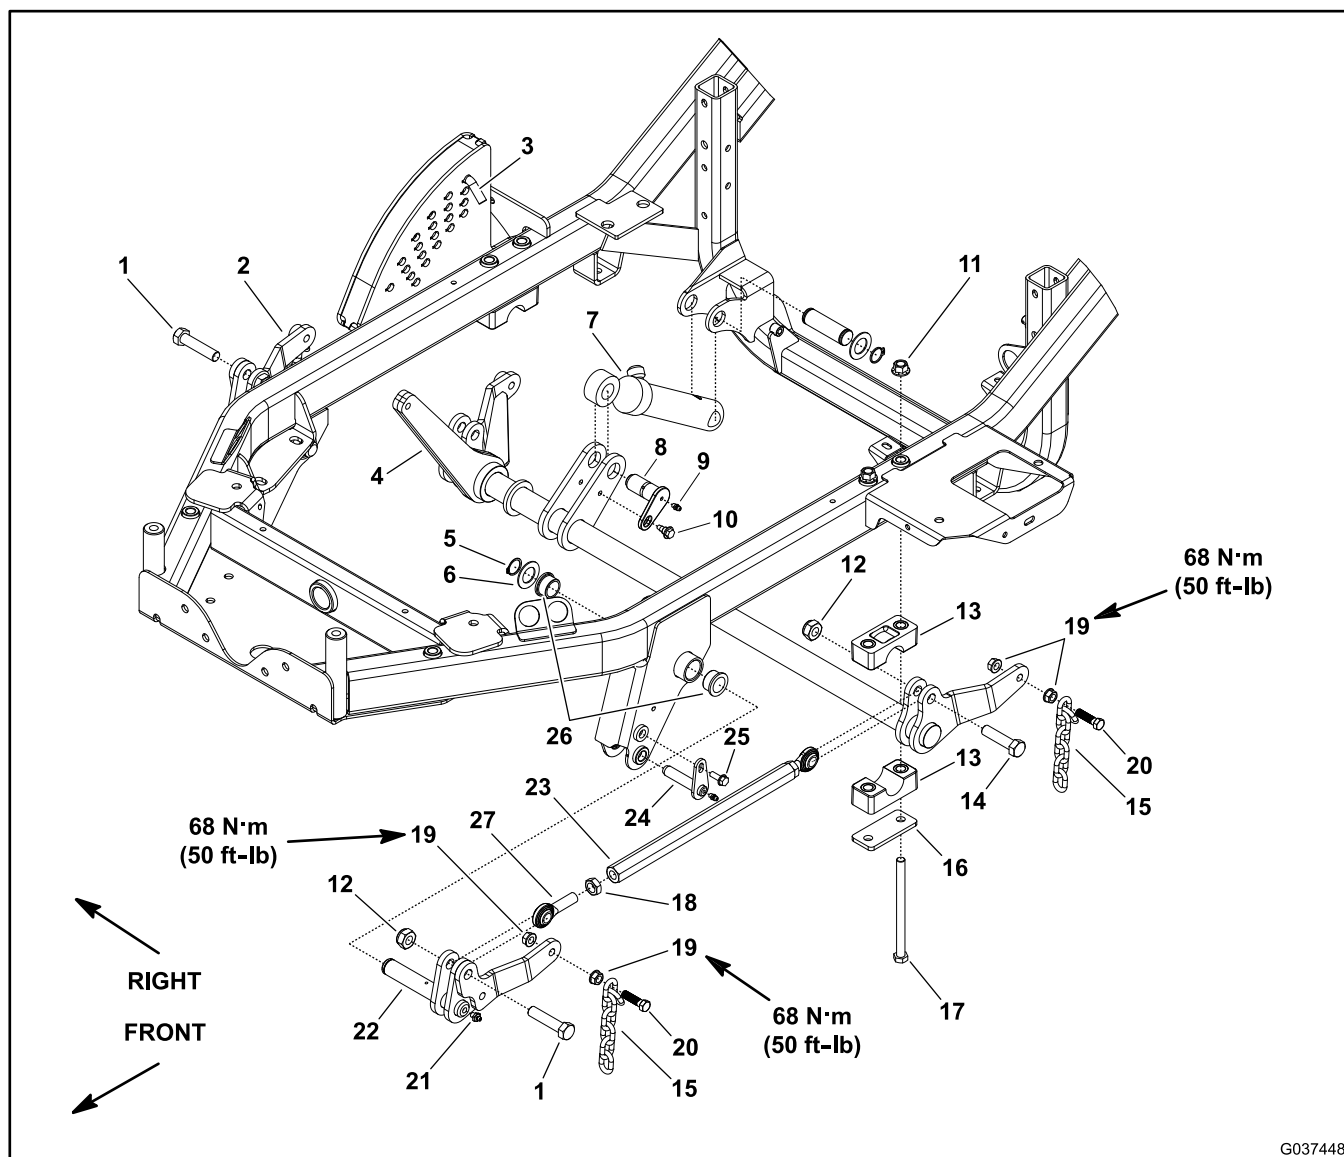

Figure 290
4. Remove the lift arm components as shown in Figure 290 and Figure 292.
1. Check the bearing caps (item 13 in Figure 290) and flange bushings (item 26 in Figure 290) for wear or damage. Replace the components if necessary.
2. Install the lift arm components as shown in Figure 290 and Figure 292.
- A. If the ball joints were removed from the link assembly (item 23 in Figure 290), install the ball joints equally on both ends of the link. Adjust the center-to-center length of the link assembly (Figure 293) to 45.9 to 46.1 cm (18.070 to 18.180 inches). Tighten the jam nuts to secure the ball joints to the link. Ensure that the ball joints stay in-line when you tighten the jam nuts.
Note: When properly installed, the flange nuts (item 19 in Figure 290) should have the flange surface against the lift arm and not against the chain. Correct assembly will allow chain to free to pivot.
- B. If the bolt (item 20 in Figure 290) was removed from the HOC chain, insert the bolt into the upper link of the chain and thread the flange nut onto the bolt with the flange away from the link; torque the flange nut to **68 N·m (50 ft-lb)**. When you fasten the chain to the front lift arm, torque